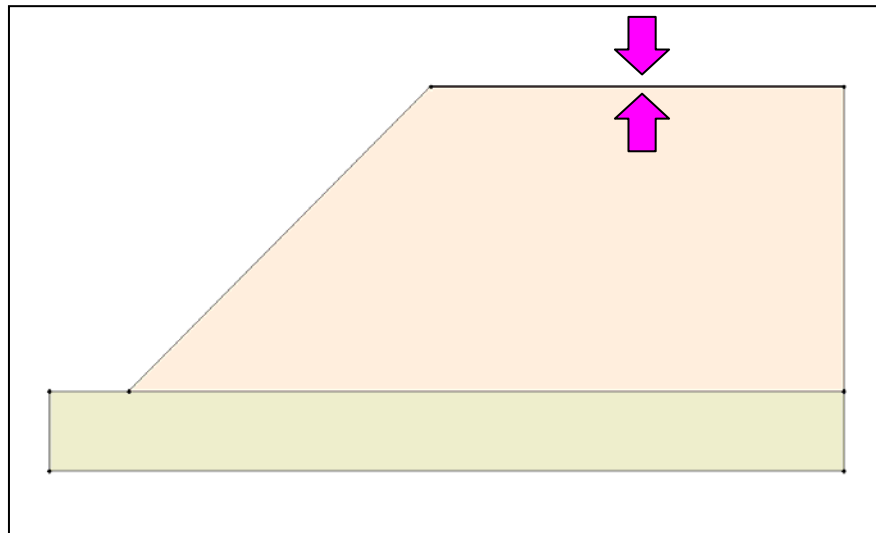

Figure 4. Selecting the distributed load arc.
1. With the *Select* tool  still active, double click on the arc that forms the top of the slope as shown in Figure 4 below.